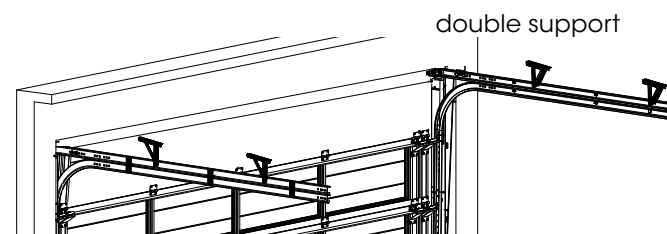

Fig: 3.4.4
WARNING! For all doors higher than 2450mm and wider than 4700mm, two (2) ceiling supports must be fitted per horizontal track at 1300mm & 2600mm Fig 3.4.4.